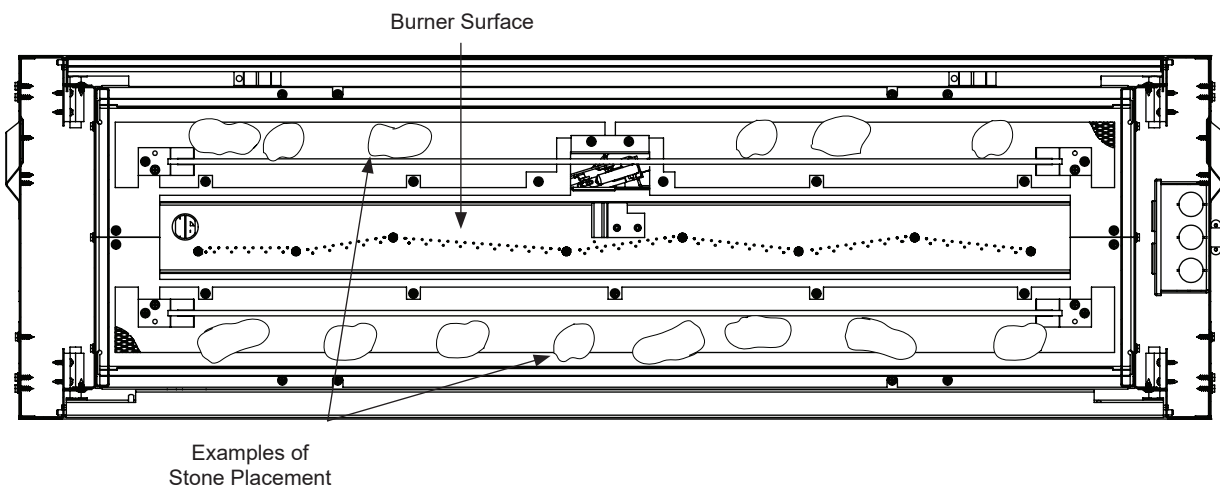

Figure 16. Air Deflection Glass and Stone Placement
2. Place the stones randomly in front of and behind the air deflection glass. **CAUTION:** Do not allow stones to sit directly on burner or in flame. Figure 16.